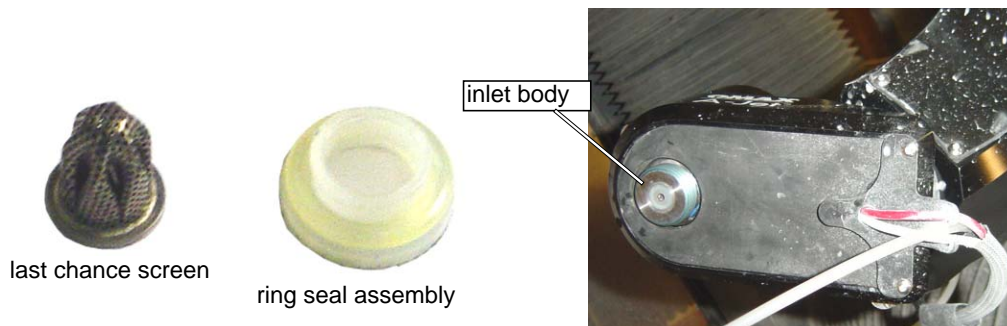

Figure 70
**Caution:** *Do not install the last chance screen, ring seal assembly (Figure 70), and nozzle until after the nipple has been tested for leakage and flushed of possible debris.*